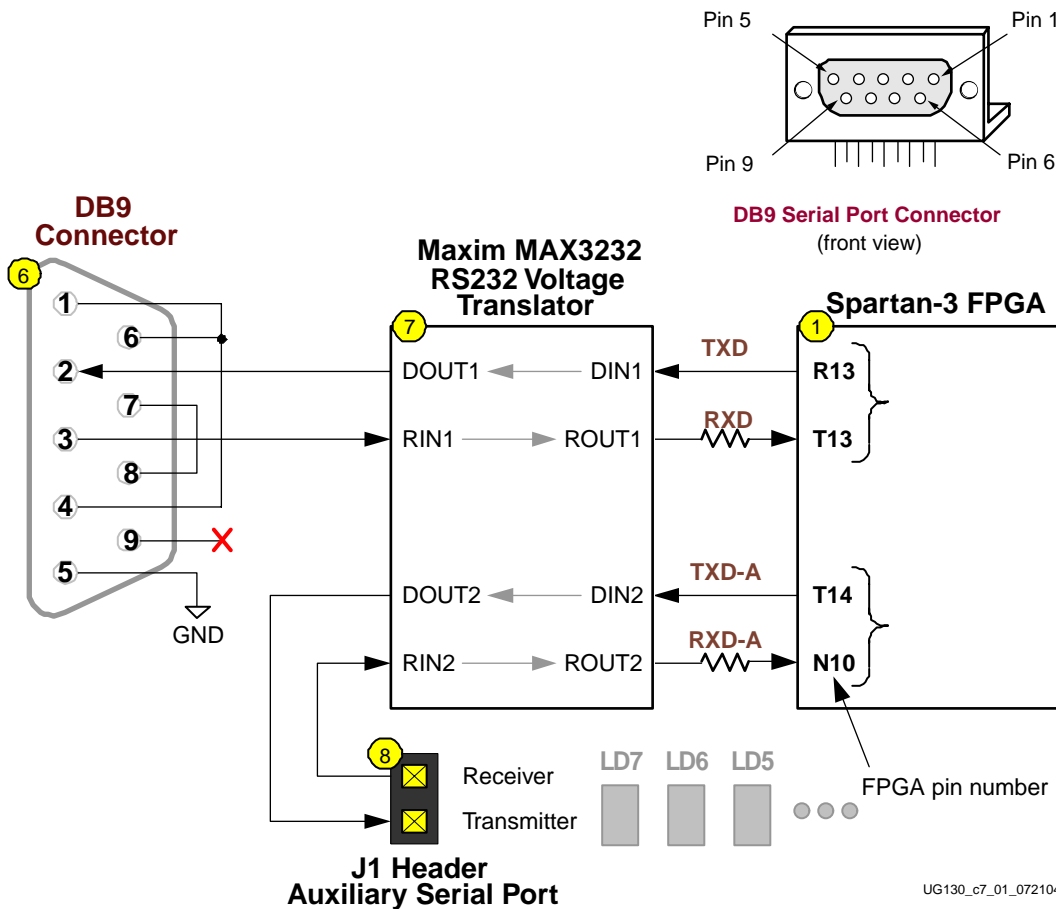

Figure 7-1: RS-232 Serial Port
Figure 7-1 shows the connection between the FPGA and the DB9 connector, including the Maxim MAX3232 RS-232 voltage converter, indicated as ⑦ in Figure 1-2. The FPGA supplies serial output data as LVTTLL or LVCMOS levels to the Maxim device, which in turn, converts the logic value to the appropriate RS-232 voltage level. Likewise, the Maxim
Hardware flow control is not supported on the connector. The port's DCD, DTR, and DSR signals connect together, as shown in Figure 7-1. Similarly, the port's RTS and CTS signals connect together.